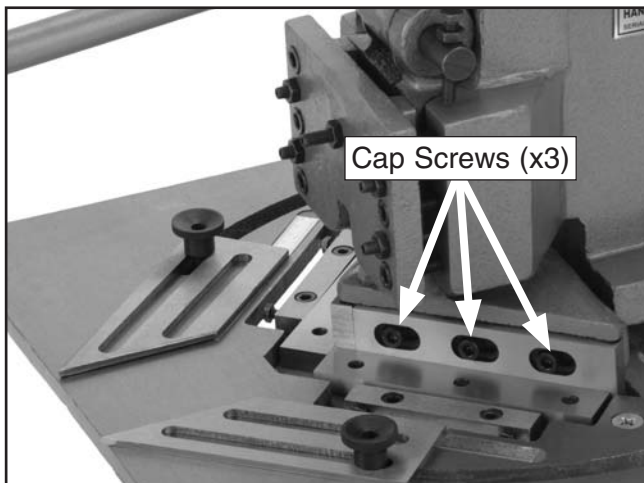

Figure 23. Screws for top blade removal.
1. Remove the six cap screws that secure the top blades (**Figure 23**).